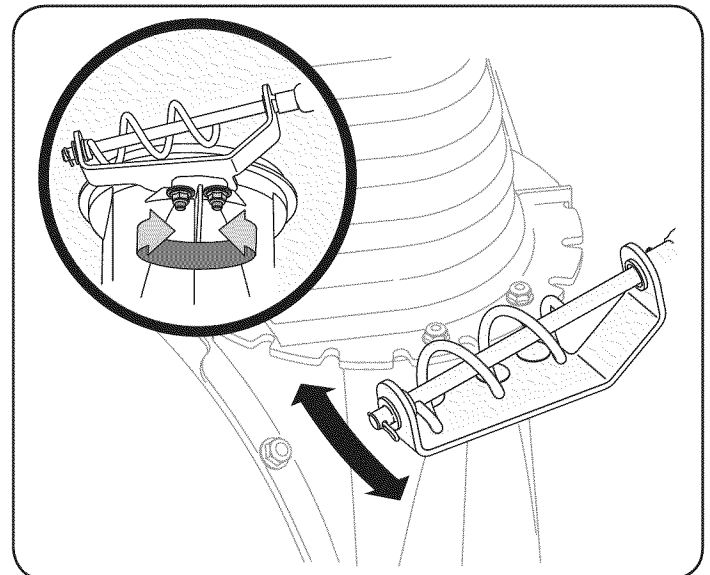

Figure 25
1. Loosen the two nuts which secure the chute bracket and reposition it slightly. See Figure 25.